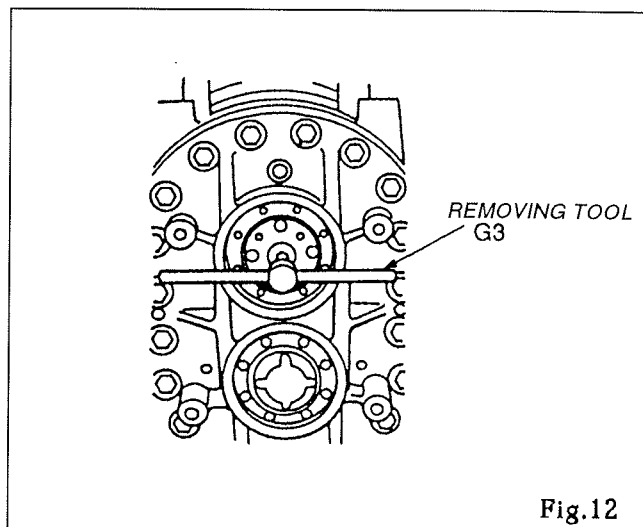

Fig.12
- (5) Draw front and rear bearing holders B (207) out. To do this, Secure the removing tool (G3) to the bearing holder with four bolts. At this point, install the removing tool so that the end of forcing screw comes concentric with the center hole of the rotor shaft. Turning the handle clockwise will cause the bearing holder to come off (Figs. 12 and 13),
- (6) Draw rear cover bearing holder B (207) out. To do this, take off two bolts (116) semifixing blind cover (104) in place and the blind cover and bearing holder will be ready to come off.